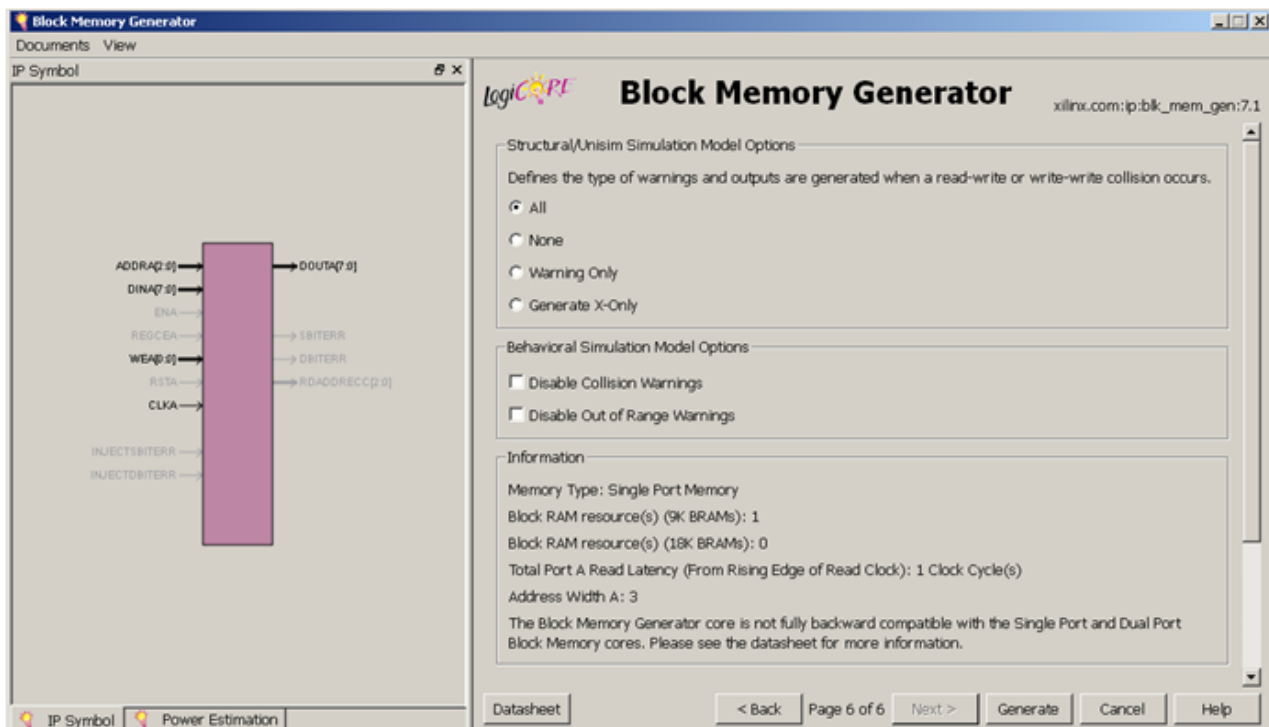

Figure 2
- On Page 4 of 6, select Load Init File and then browse to locate the file created earlier, **my_bram8x8.coe**, and then click Next. Click Next again. Page 6 of 6 should look like in Figure 2.